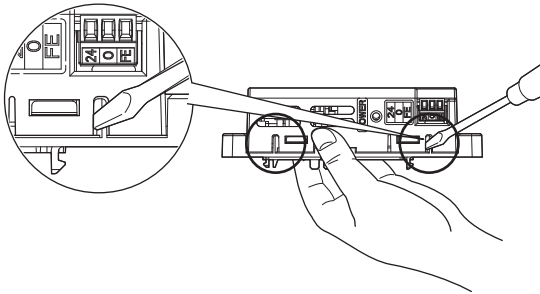

Figure 7 Removing the 24 V Power Supply Option Cover to Expose Connection Sockets
1. Insert a flat-blade screwdriver into two small slots on the side of the 24 V Power Supply Option cover to lift the cover off its mounting attachment as shown on **Figure 7**.